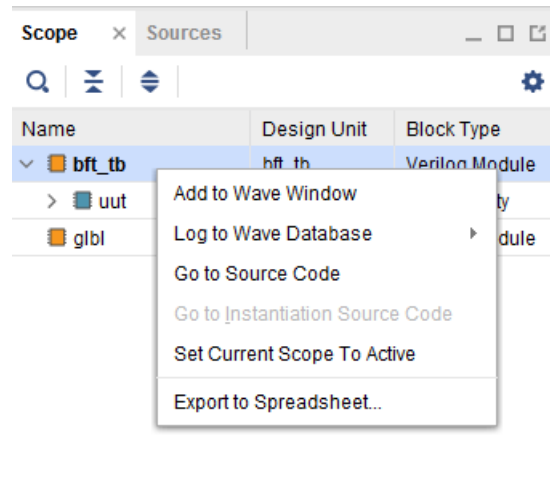

Figure 4-8: Context Menu in Scopes Window
**TIP:** To access source files for editing, you can open files from the Scopes or Objects window by selecting **Go to Source Code**, as shown in Figure 4-8.